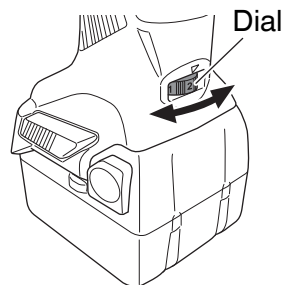

Fig. 7
7. Adjusting operating speed (Fig. 7)